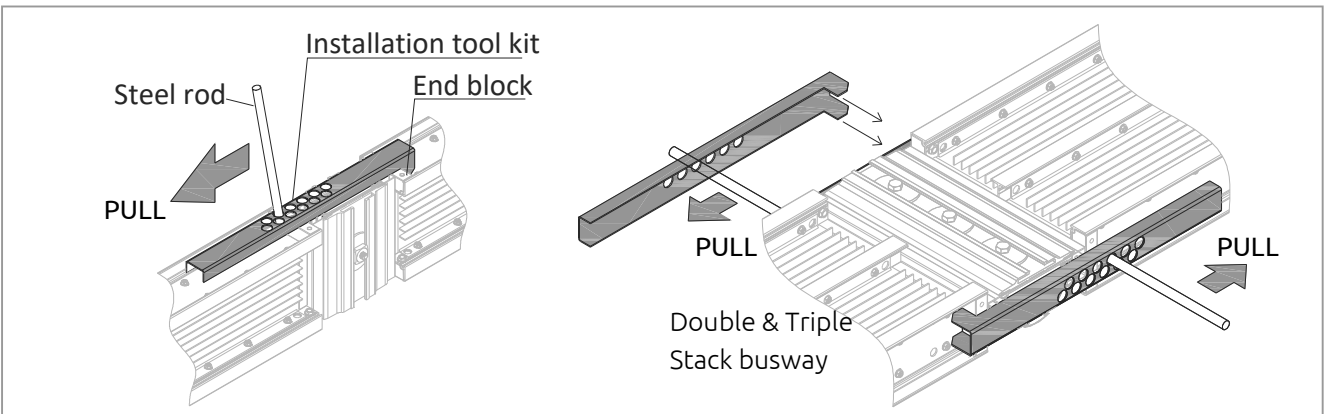

Figure 6.3
3. Pull the steel rod as per arrow direction using installation tool kit shown in Figure 6.3